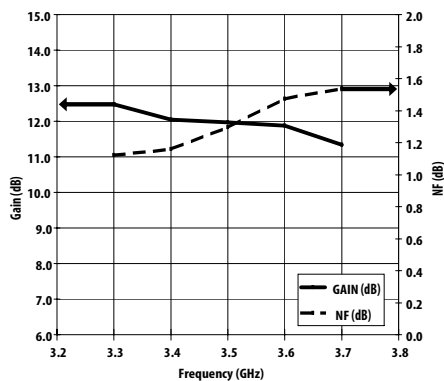

Figure 29. Gain and NF vs Frequency
- List 1 – Demo Board Component values for Demo board Schematic of Fig. 29.
- List 2 – Demo Board Component values for Demo board Schematic of Fig. 29.
- List 3 – Demo Board Component values for Demo board Schematic of Fig. 29.
- List 4 - Demo Board Component Values for Demo board Schematic of Fig 29.